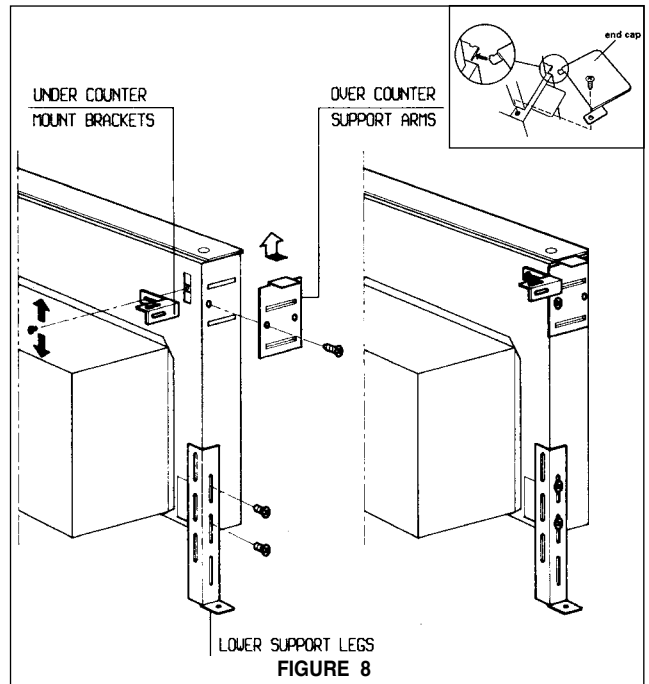

FIGURE 8
2. Attach the Overcounter Support Arms to the left and right sides of the downdraft body as indicated in **FIGURE 8**. Two short screws are provided. Attach the end caps to the left and right sides of the downdraft over the Overcounter Support Arms. Attach the Lower Support Legs to left and right sides of the downdraft into the threaded slots on each side. The Lower Support Legs have holes for mounting to the cabinet floor and can be installed on either side depending upon the length required. Determine if the holes should be in the front or on the sides.
10. Attach the downdraft to the countertop using the Undercounter Mounting Brackets (**FIGURE 8**). This system is designed to adjust to different countertop thicknesses. Using the small Phillips head machine screws in the hardware package, attach one Undercounter Mounting Bracket to the slot on the upper right corner of the unit. Attach the other end of the Bracket to the underside of the countertop.